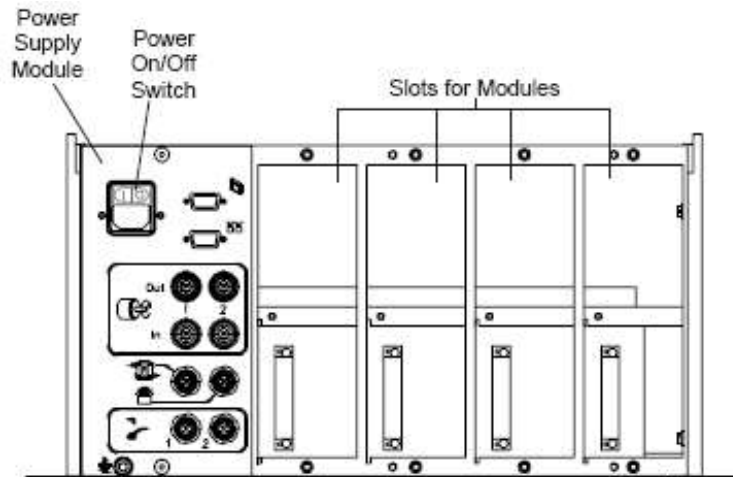

Figure 5-2. VCX Power Supply Module Power Switch
3. Flip the power switch on the back of the VCX Power Supply Module to the “On” position (see Figure 5-2).
4. Flip the power switch on the back of the VCX Power Supply Module to the “Off” position (see Figure 5-2).